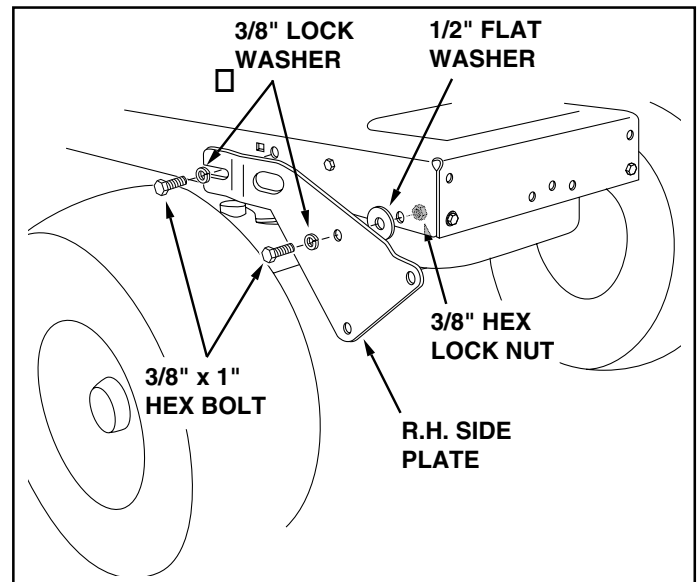

FIGURE 5 RIGHT SIDE VIEW
- Attach the R.H. Side Plate (marked "R") to the right side of the tractor frame. For the front hole use a 3/8" x 1" hex bolt, a 3/8" lock washer, a 1/2" flat washer and a 3/8" hex lock nut. Use the flat washer as a shim between the frame and the side plate. For the rear hole use a 3/8" x 1" hex bolt, and a 3/8" lock washer. See figure 5. Repeat for the L.H. side.